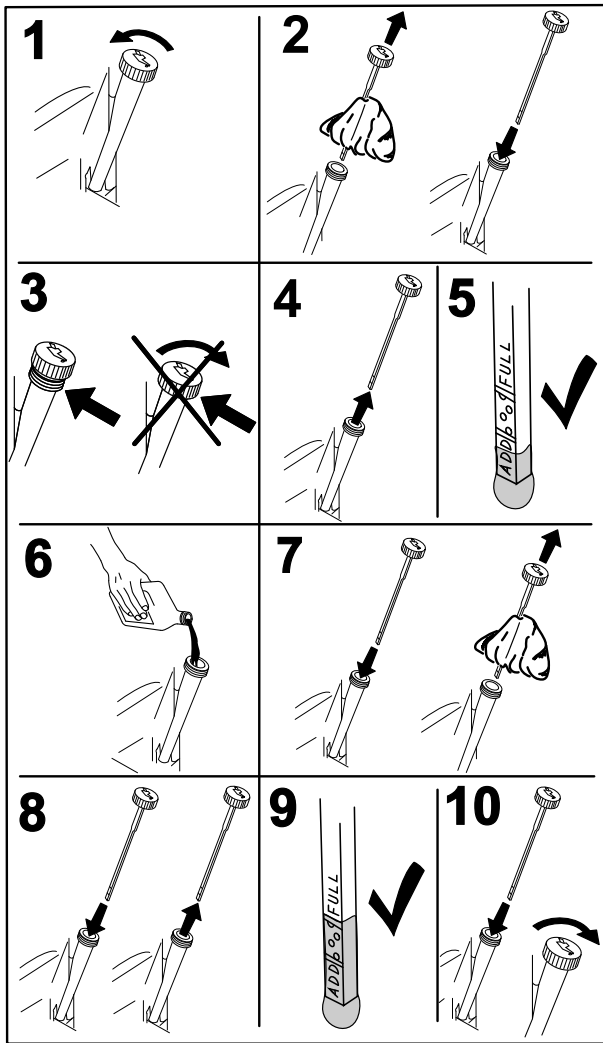

Figure 31
2. Check the oil as shown in Figure 31.